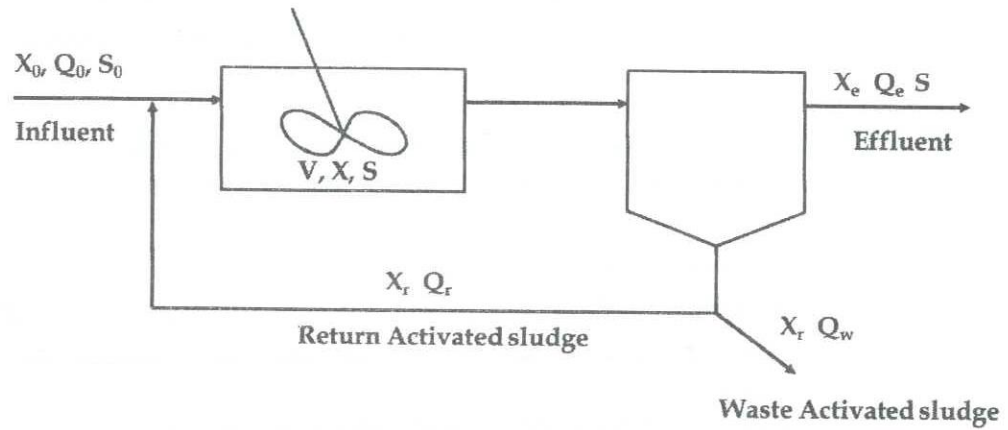

Figure Q5: Schematic of the ASP
- b) A complete-mix activated sludge process (ASP) (Figure Q5) is designed to treat a primary settled wastewater flow of $0.15 \text{ m}^3/\text{s}$. The influent soluble BOD_5 to the ASP is 200 mg/L at the average flow conditions. The effluent BOD_5 is expected to be 20 mg/L . Following data are available for the ASP: